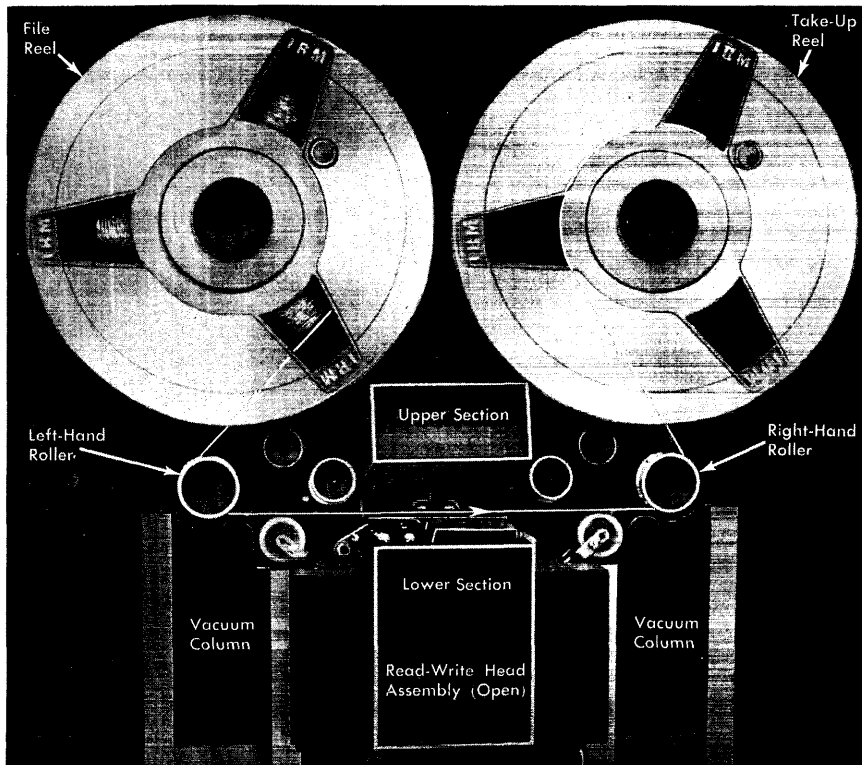

Figure 60. IBM 729 Tape Threading
6. Thread the tape (Figure 60):
8. Place an opening in the take-up reel at "one o'clock." Thread the tape on the reel in a clockwise direction until the end is at this opening. (See Figure 60 for an illustration of winding tape on reels.)